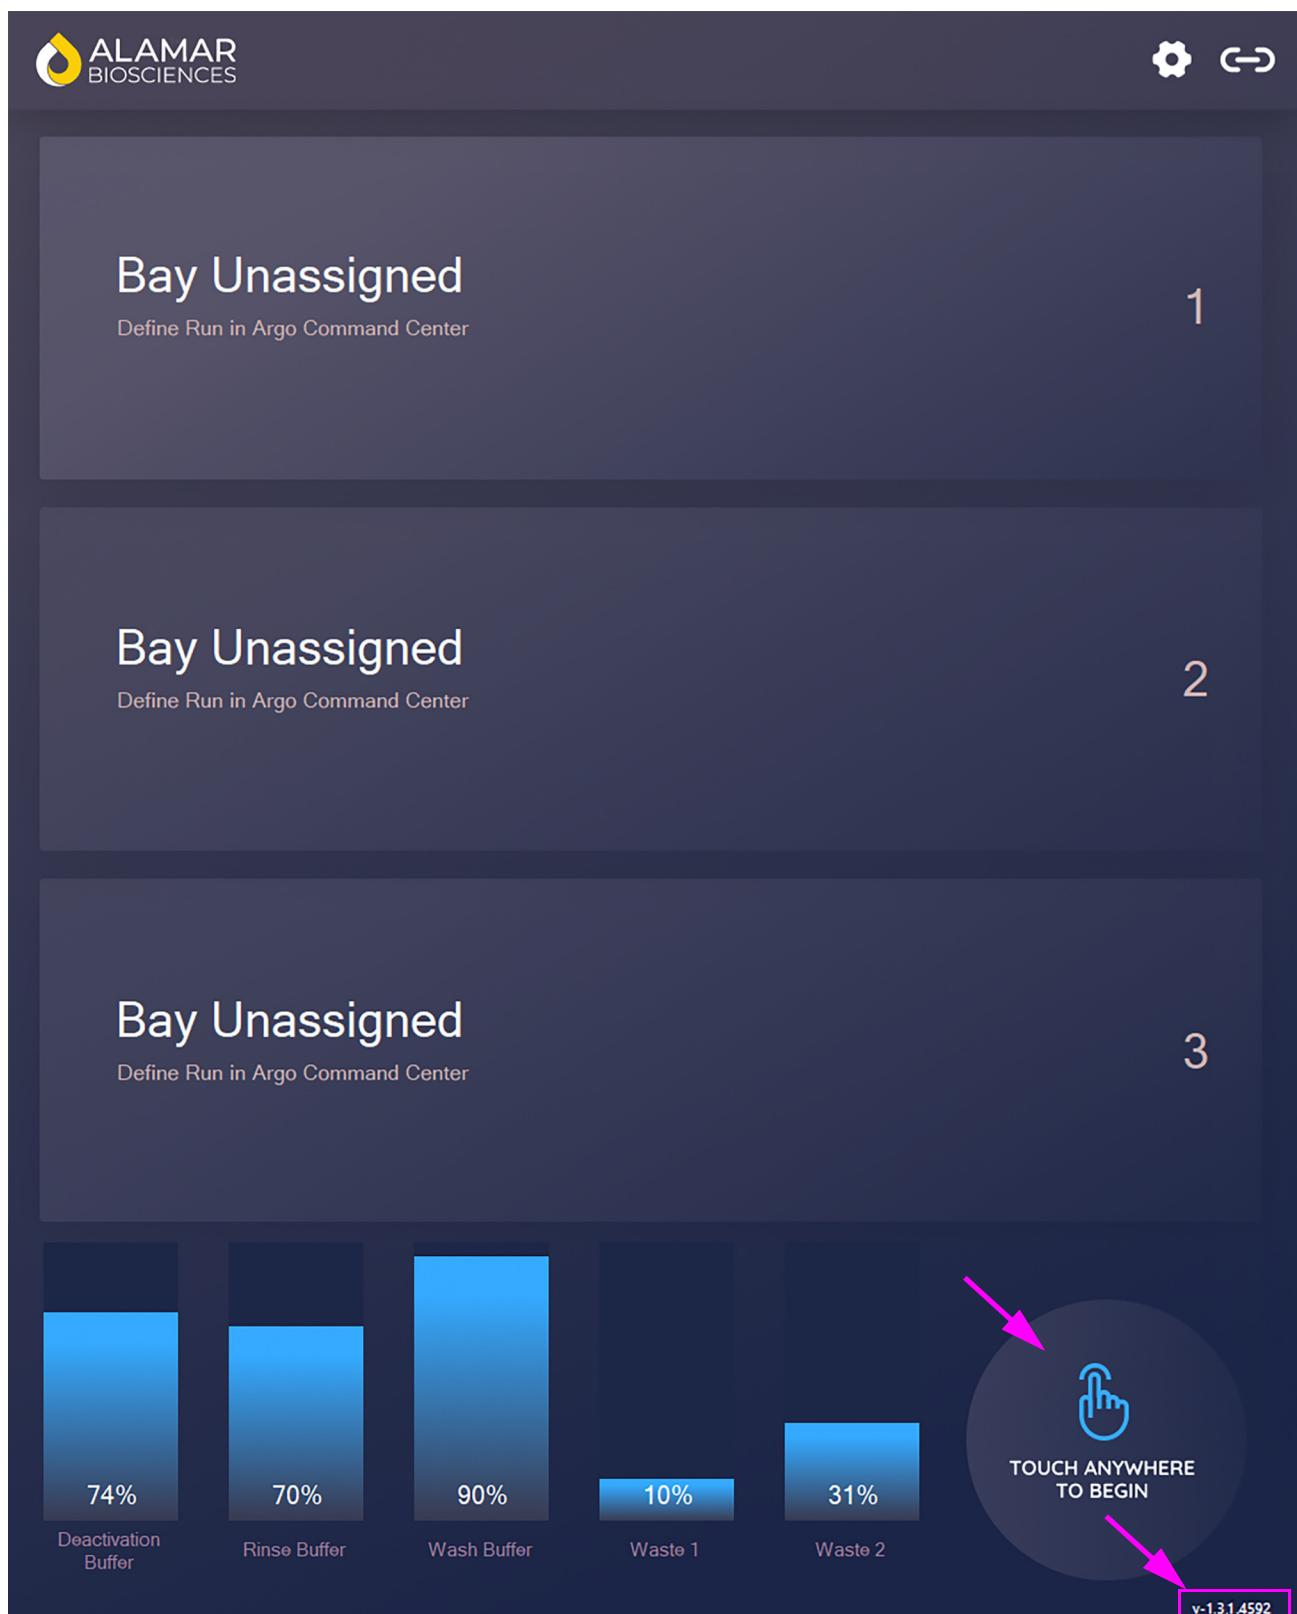
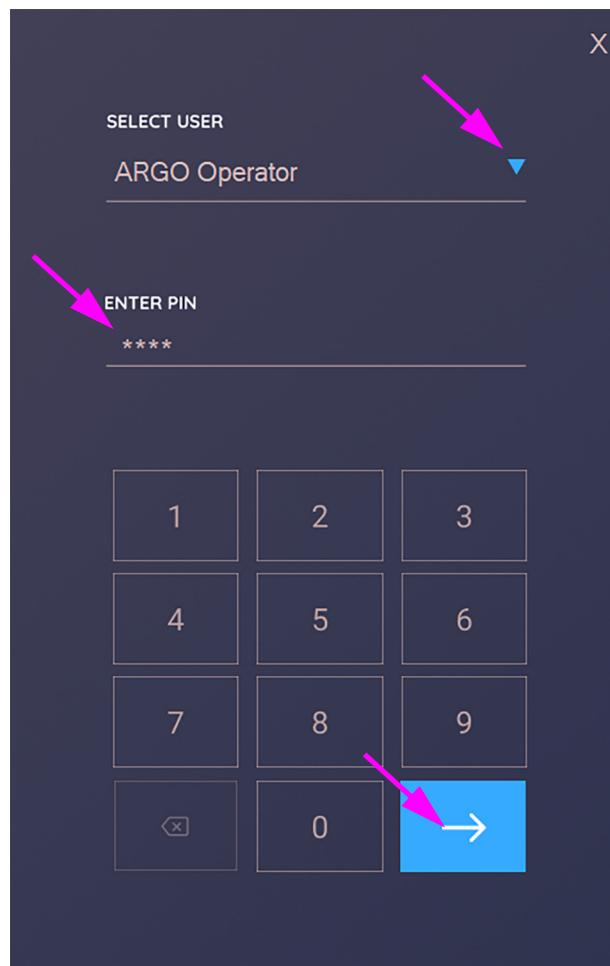

Figure 4-11. Figure 4-11 Display Before Login
Figure 4-12. ARGO HT Login Screen
1. On the ARGO HT touchscreen display, touch anywhere on the display. See Figure 4-11. The login screen will be displayed (see Figure 4-12).
The instrument software version is shown at the bottom right-hand corner of the display. See Figure 4-11.